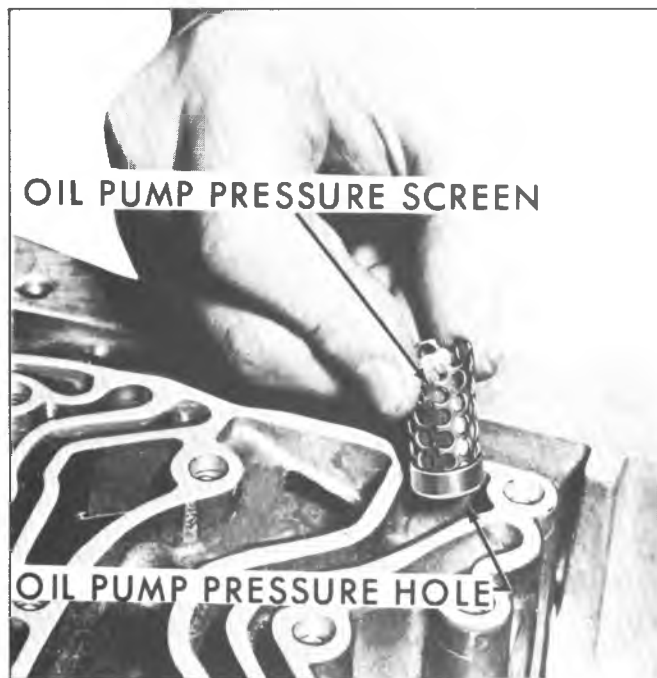

Fig. 16M--Removing Oil Pump Pressure Screen
6. Remove oil pump pressure screen from oil pump pressure hole in case (fig. 16M).